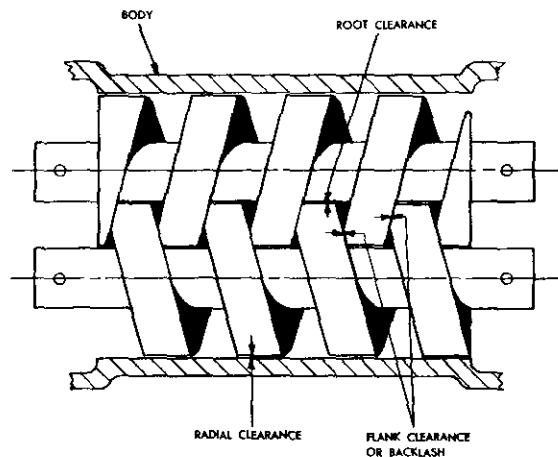

Fig. 5-1
Check existing pump capacity and power requirements against pump nameplate data. A Warren Series 2201 pump is a positive displacement pump. With a constant system and viscosity, pump wear is indicated when capacity is off or if sufficient pressure cannot be developed. If capacity is low, or if pump will not develop sufficient discharge pressure, pump should be disassembled and worn parts replaced. If pump performance is satisfactory, the pump need not be disassembled for inspection. Refer to Fig. 5-1 and 5-2 for terminology used when discussing or referring to particular screw areas. See Section 5-3 for rotating assembly examination procedure.
- c. Check flank clearance with feeler gauges. See Fig. 5-1. Check original operating clearance table (See Table 5-1).
- a. With outside micrometer, check outside diameter of screw (25) at several locations. Record reading. Use parallel or keystick to obtain two opposite points for measuring.